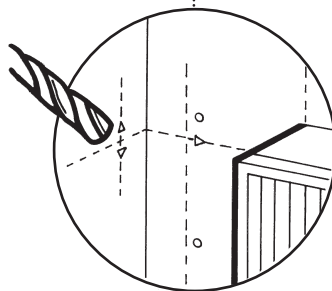

Fig. 39
13. Cut a hole approximately 107mm ($4\frac{1}{4}$ in) diameter in the masonry for the 100mm (4 in) diameter flue duct (Fig. 39). (Use of a core drill is recommended. When using a core drill, it is important to keep the drill level and square, particularly with the wall onto which the boiler is to be fitted).